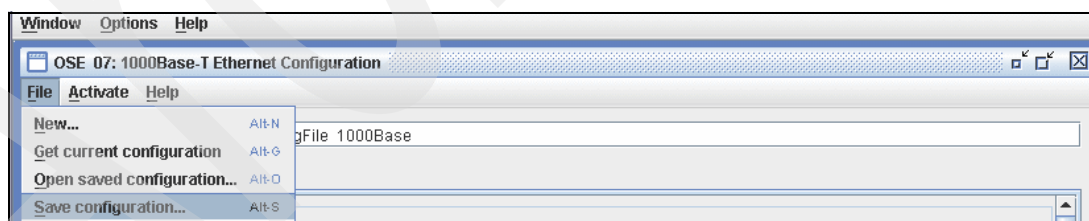

Figure 4-20 OSA/SF Workstation Interface - Save current configuration
- Click **File** → **Save configuration...** (Figure 4-20). The configuration file is saved by OSA/SF and can be reused later.